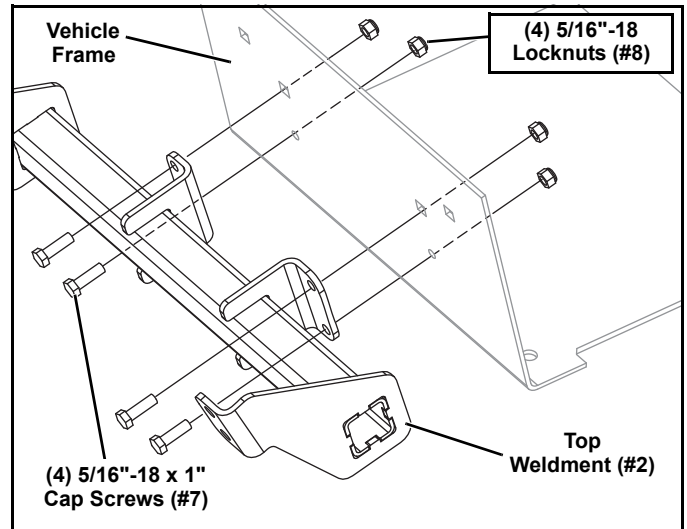

Figure 3
3. Insert (4) 5/16"-18 x 1" Cap Screws (#7) through the Top Weldment (#2) and into the holes on the vehicle frame. Secure with (4) 5/16"-18 Locknuts (#8). (See Figure 3).